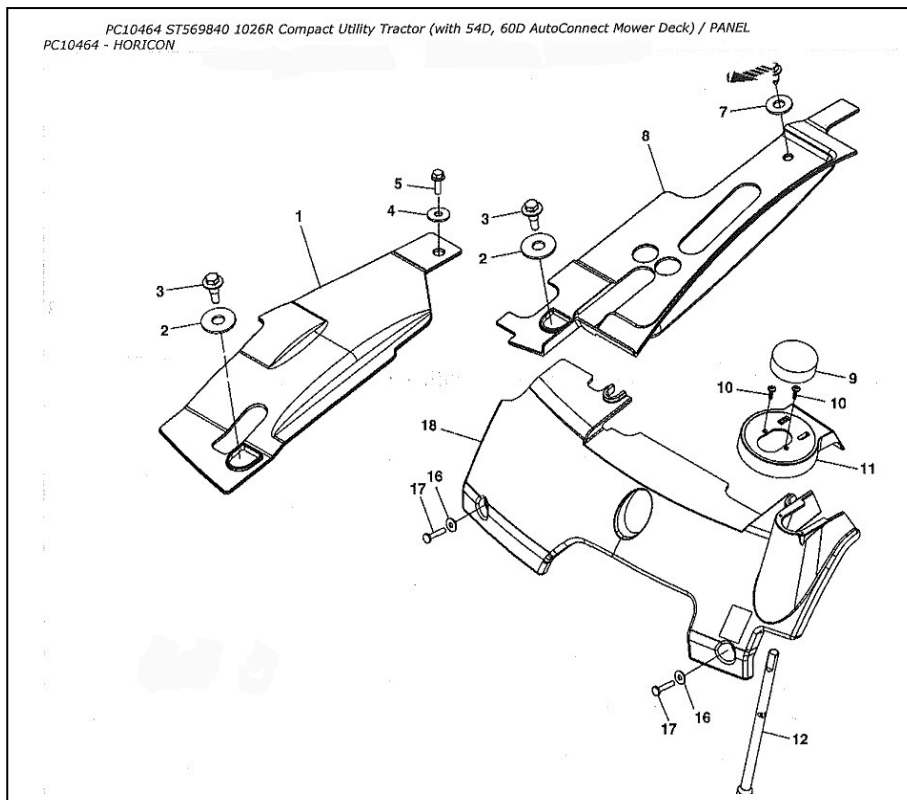

Figure 31
64. On 1023E models, under seat side closeout panels are not sold with the tractors and can be purchased from a John Deere dealer, if preferred. Refer to part numbers 1-8 of **Figure 31** for items and part numbers.